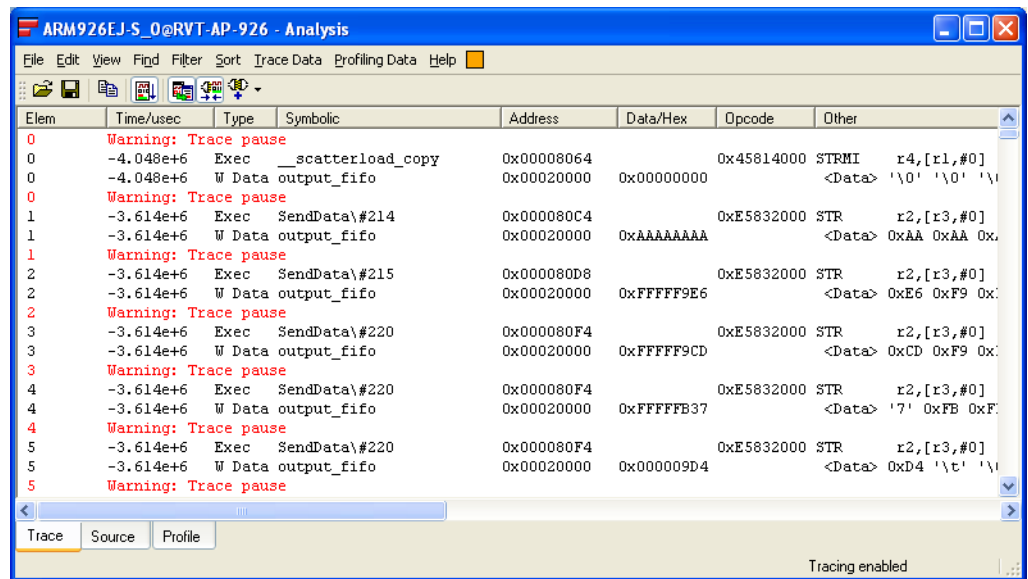

Figure 10-59 Captured trace in Analysis window
7. Select **Function Boundaries** from the **Trace Data** menu to hide the function boundaries. Figure 10-59 on page 10-55 shows an example.
8. After a short time, click **Stop** on the Debug toolbar to stop execution. The captured trace is displayed in the **Trace** tab of the Analysis window. Compare the captured trace with that shown in Figure 10-59 on page 10-55.